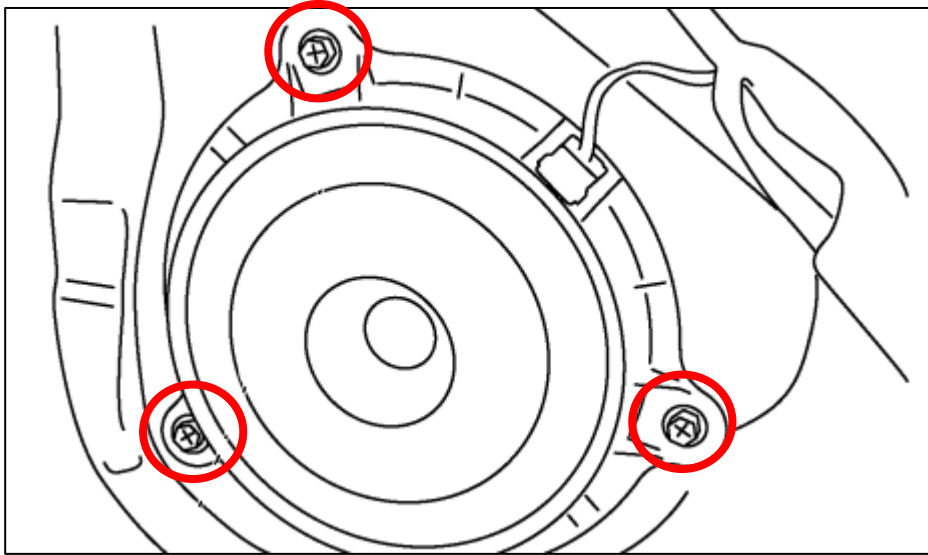

Figure 16
12. Remove the (3) three bolts securing the Speaker to the Door Panel. *Figure 16.*